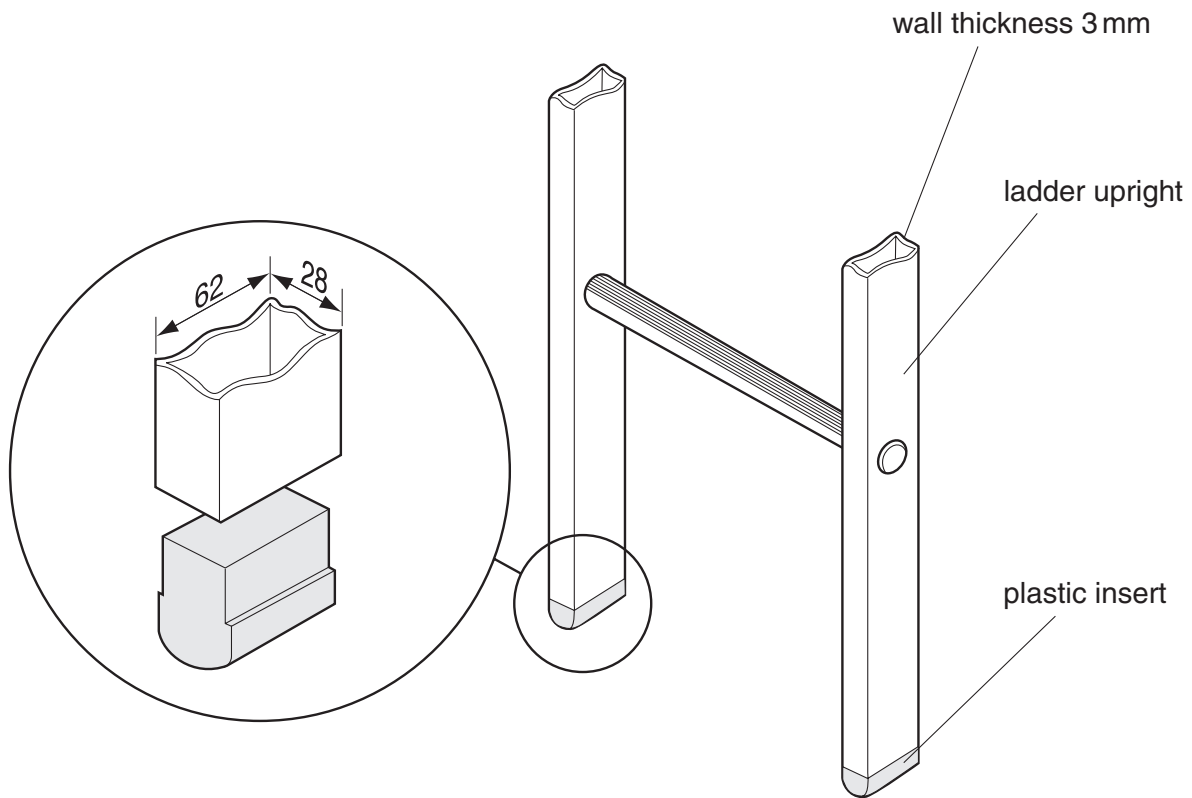

Fig. 6
- 5 Fig. 6 shows views of a metal ladder.